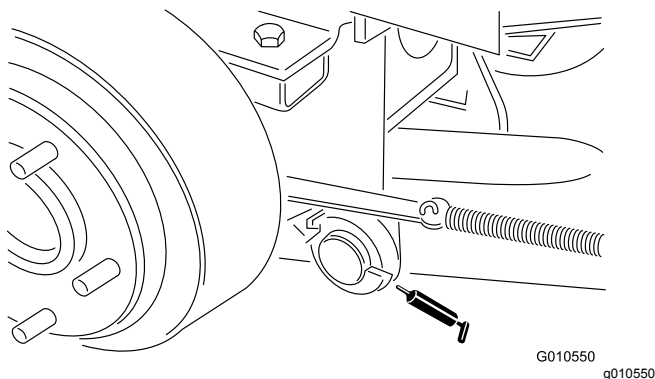

Figure 16
- Right and left lift arm pivot pins (Figure 16)